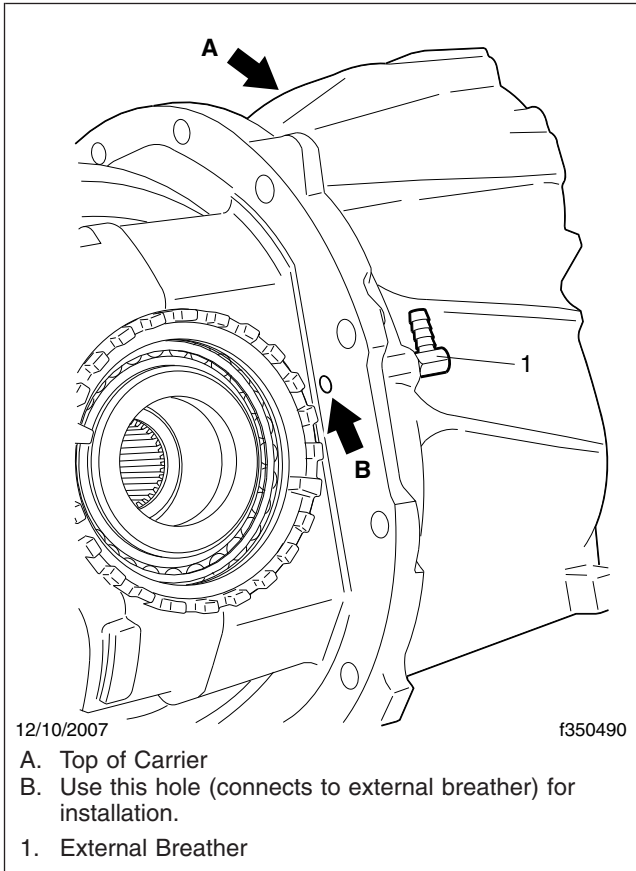
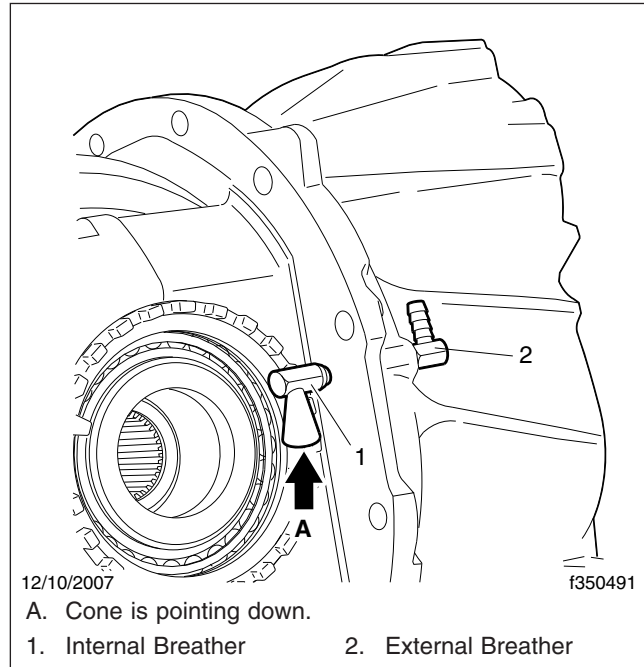

Fig. 3, Location of Breather Hole
Fig. 4, Internal Breather Installed
11. Using a hammer, install the internal breather (cone pointing down) in the breather hole inside the carrier that connects to the external breather. See Fig. 3 and Fig. 4.